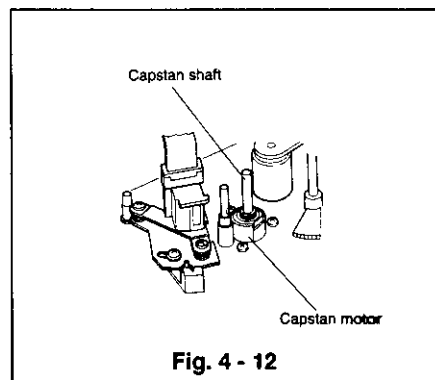

Fig. 4-12
- ② Turn the capstan shaft, shown in Fig. 4-12, clockwise to turn the reel so that the tape is wound back into the cassette. (Take care not to scar or stain the capstan shaft. After winding up the tape, clean the capstan shaft with alcohol, refer to Para. 1-2.)